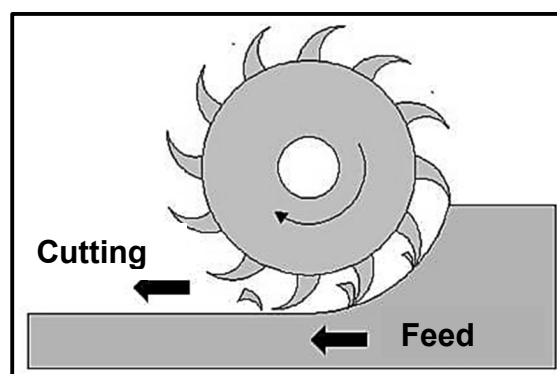

FIGURE 3.2
3.2 What type of milling process is shown in FIGURE 3.2?